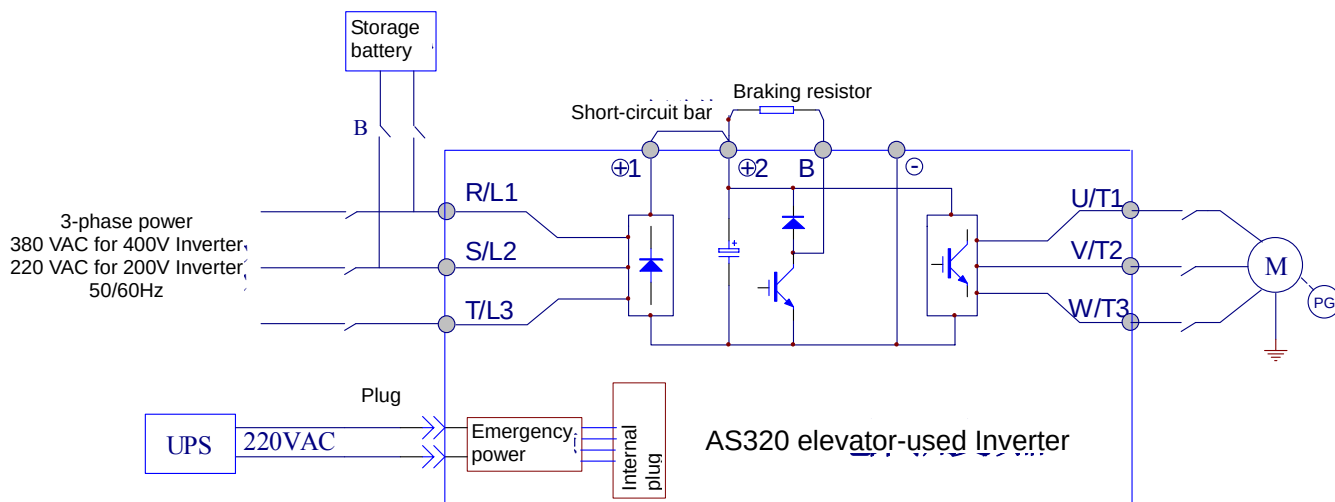

Figure 4.6 Emergency power and storage battery connection
- The connection of UPS and storage battery is shown in Figure 4.6.